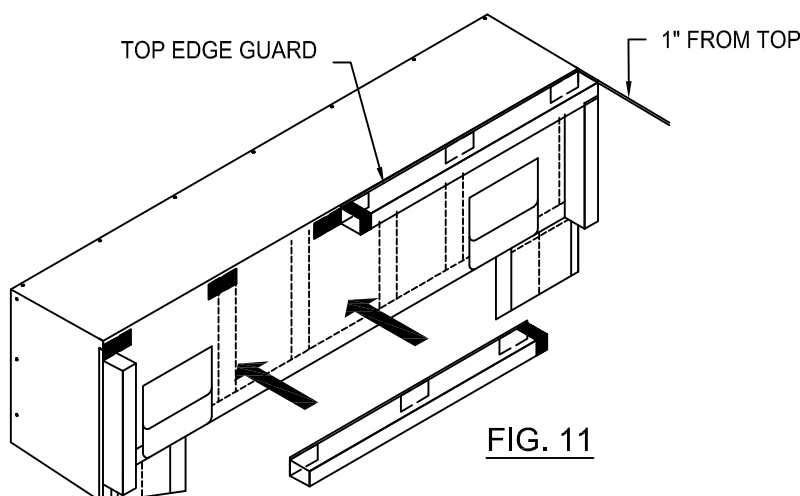

FIG. 11
* Position right or left top edge guard along top edge of curtain with outer edges flush with unit outer edges (FIG. 11).
* Repeat for other side (FIG. 11)